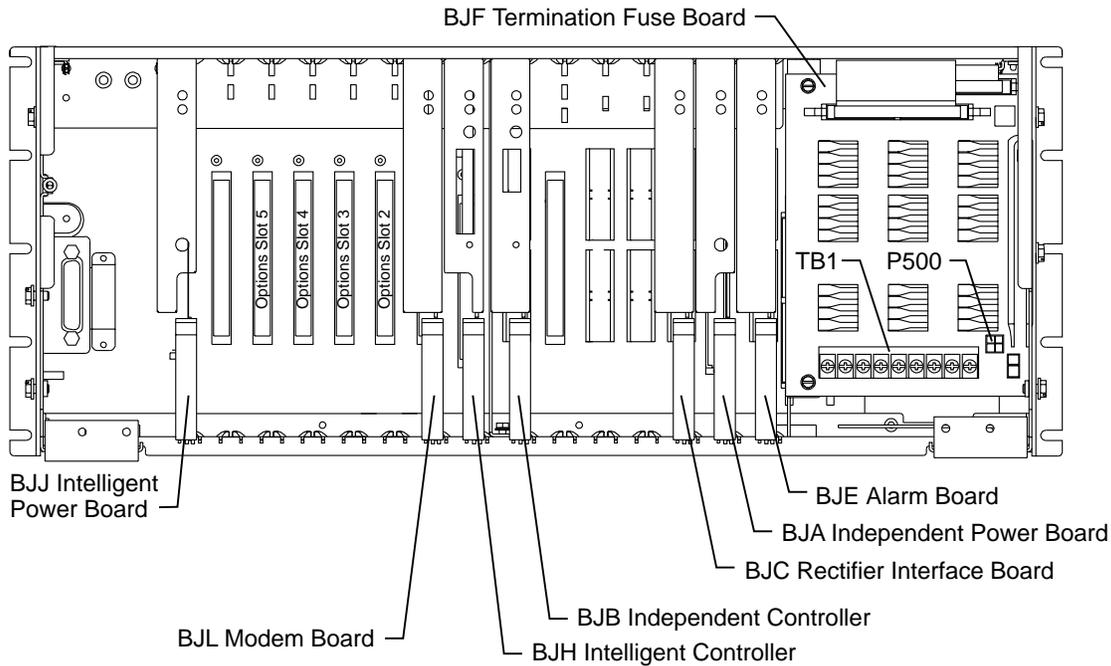

Figure 3-1: Details of Galaxy SC's Circuit Board Positions
1. Open the front door of the Galaxy SC by pulling down on the top sides of the door. Assure that all necessary circuit packs are provided. Refer to Figure 3-1 and Table 3-A.